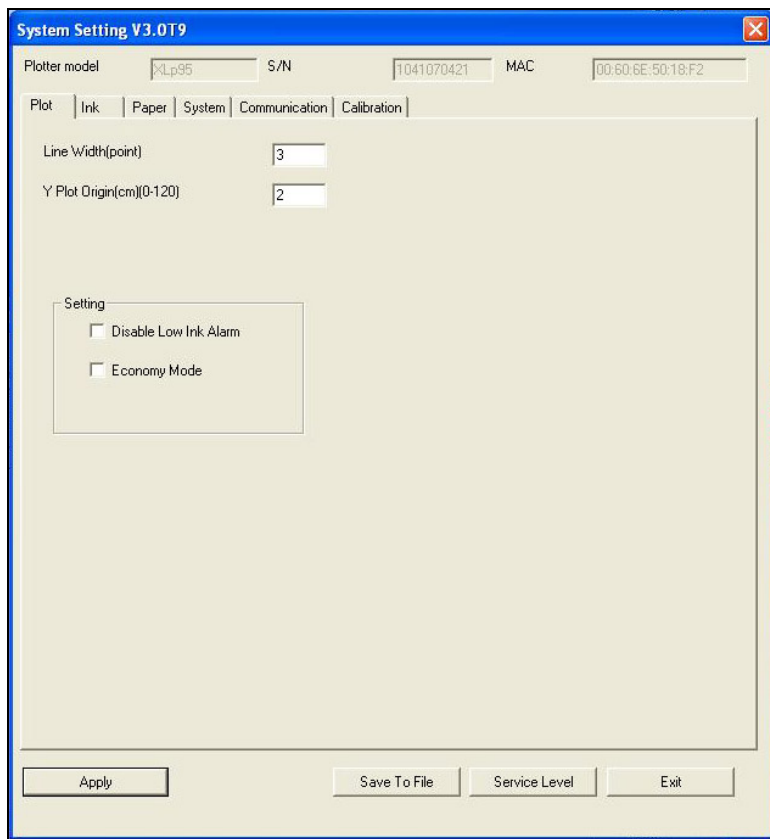

Figure 32. System Setting window after configuration
16. The window in Figure 32 will appear with tabs for further configuration.